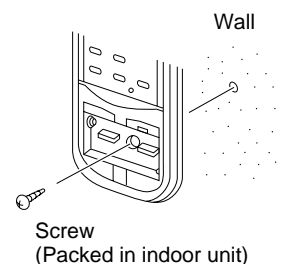

Fig. 7
- 6) Use a screwdriver to screw the remote control unit securing screw into the wall through the hole in the battery compartment. (Fig. 7)